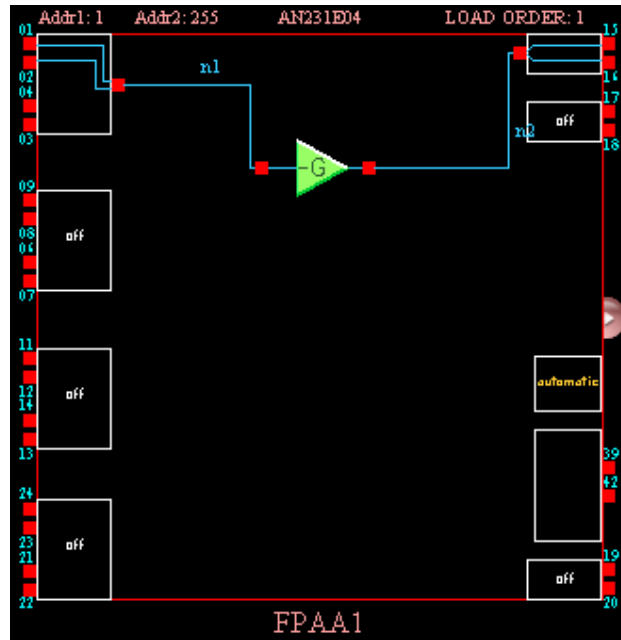

Figure 4: The AD2 circuit
- Now open AnadigmDesigner2 (called AD2 from now on) and create the required circuit. For the purpose of this document, the circuit shown in figure 4 will be used which consists of a single GainInv CAM. Save the AD2 circuit in the Visual C project area.